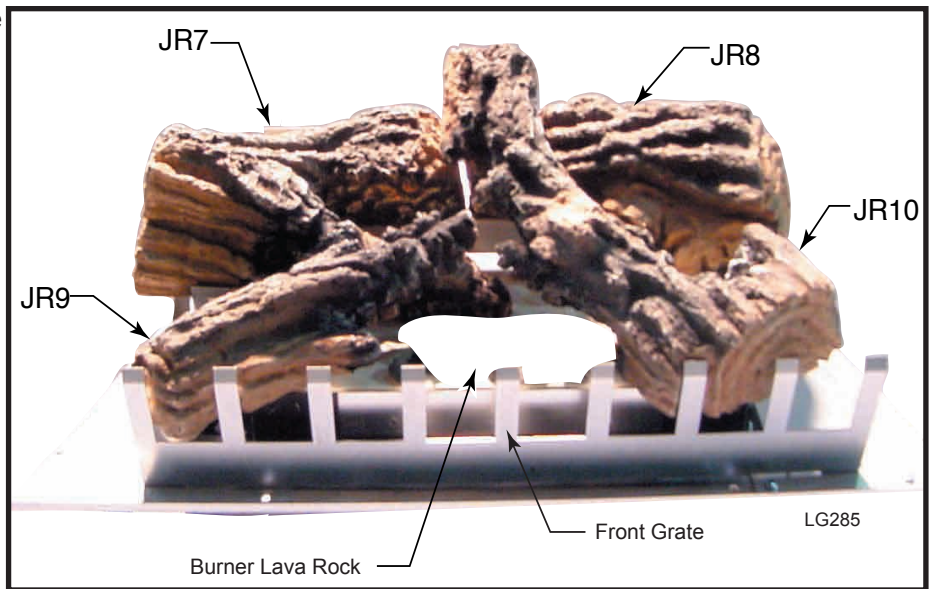

Fig. 22 LHEC20 and LHER20 log and lava rock placement.
LHECDV20, LHERDV20 (Fig. 22)
- b. Place rear right log (JR8). Use the log's bottom holes to locate it onto the two (2) pin studs of the rear log bracket on the right.
- e. Place the burner lava rock on the front area of the burner housing. (Fig. 22)